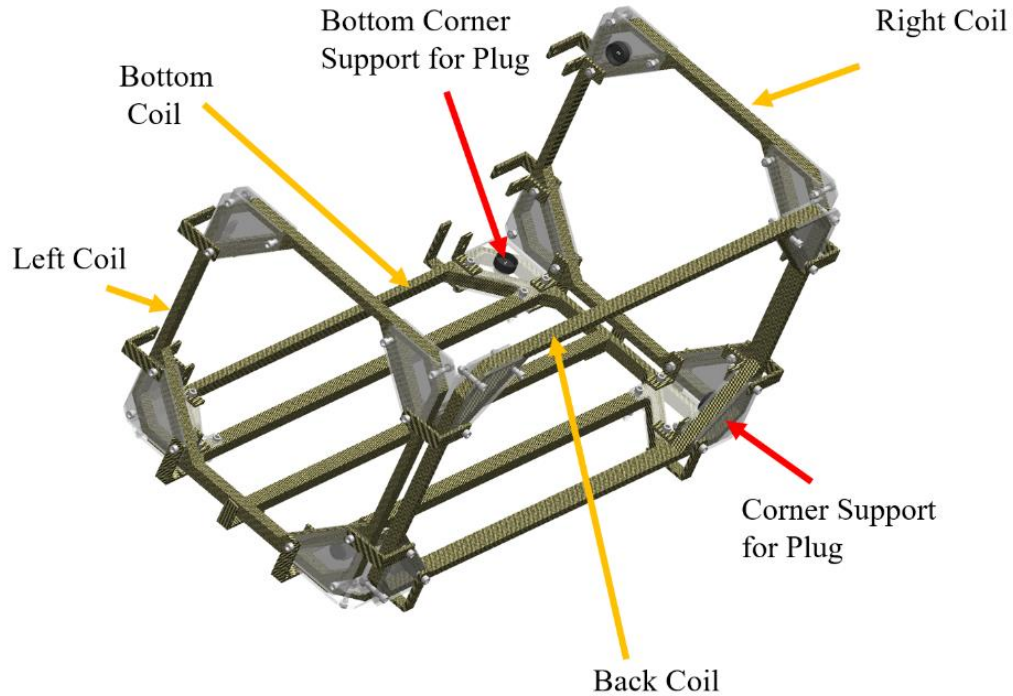

Figure 1.6
7. Attach the Back Coil (PN ASMB006) to the Bottom Coil (PN ASMB009), between the Right Coil (PN ASMB005) and Left Coil (ASMB004) as shown in Figure 1.6. The Back Coil long edge closest to the plug should be bolted to the long edge of the Bottom Coil furthest from the Bottom Coil's plug. The Back Coil should slot in between the two Outer Angle Bracket and Inner Angle Bracket pairs on the on each of the other three coils. Bolt the currently unbolted holes in the brackets to the unbolted holes in the acrylic supports on the Back Coil using six 2.5" 3/8-16 bolts (PN OUTS003), and six 3/8-16 nuts (PN OUTS004). Note: match drill to fit as needed.